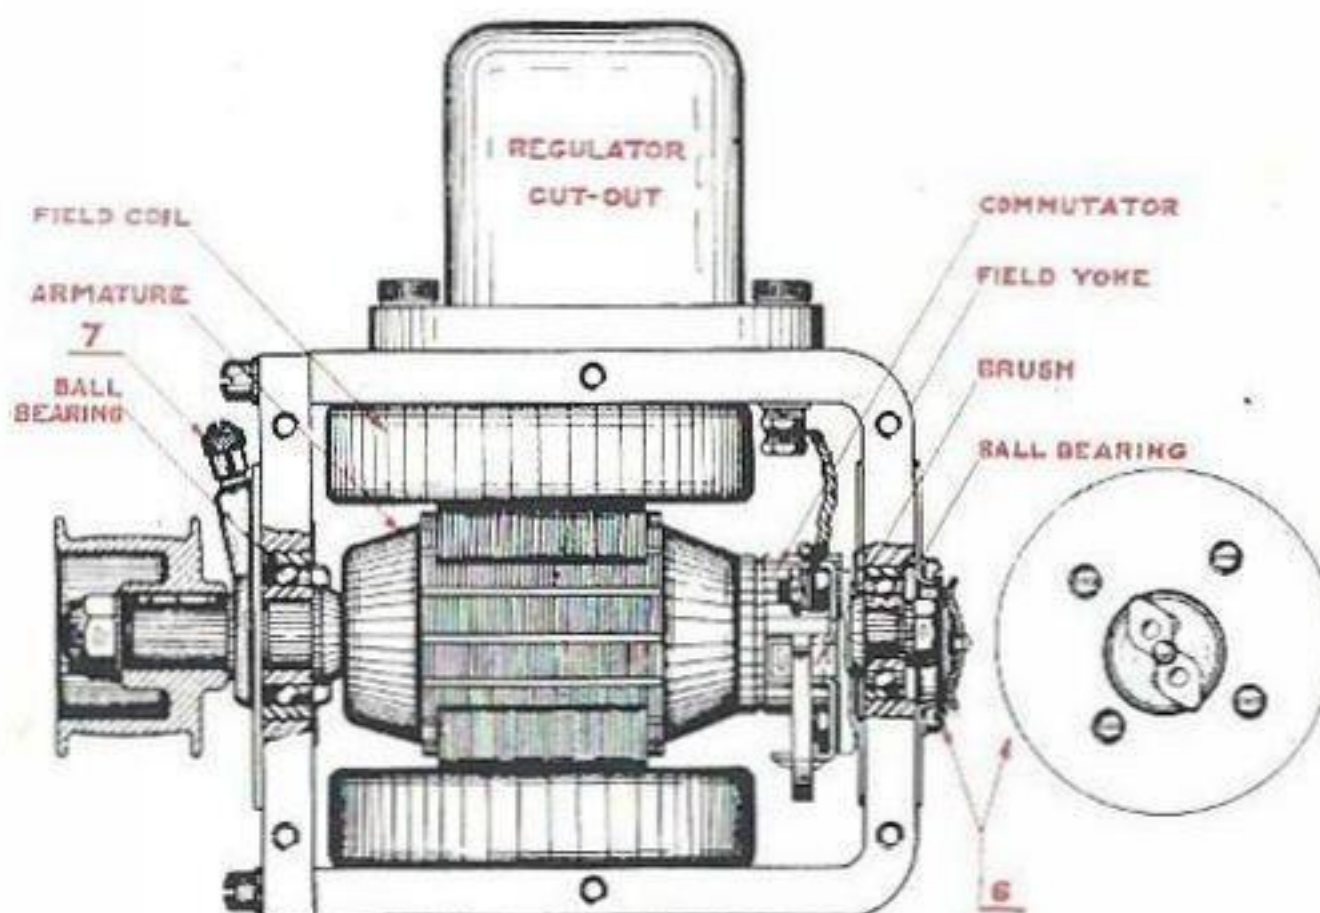

Figure No. 1
- Function** 1 The dynamo, Fig. No. 1, generates electricity for lighting and for charging the battery.
- Interior accessible** 7 The dynamo is shown in the sectional view (Fig. No. 1). Its interior is accessible from opposite sides by removing side covers.
- 9 No. 6 in Fig. No. 1 shows commutator-end oiling device. Oil is admitted through upper opening. The lower one acts as an overflow.